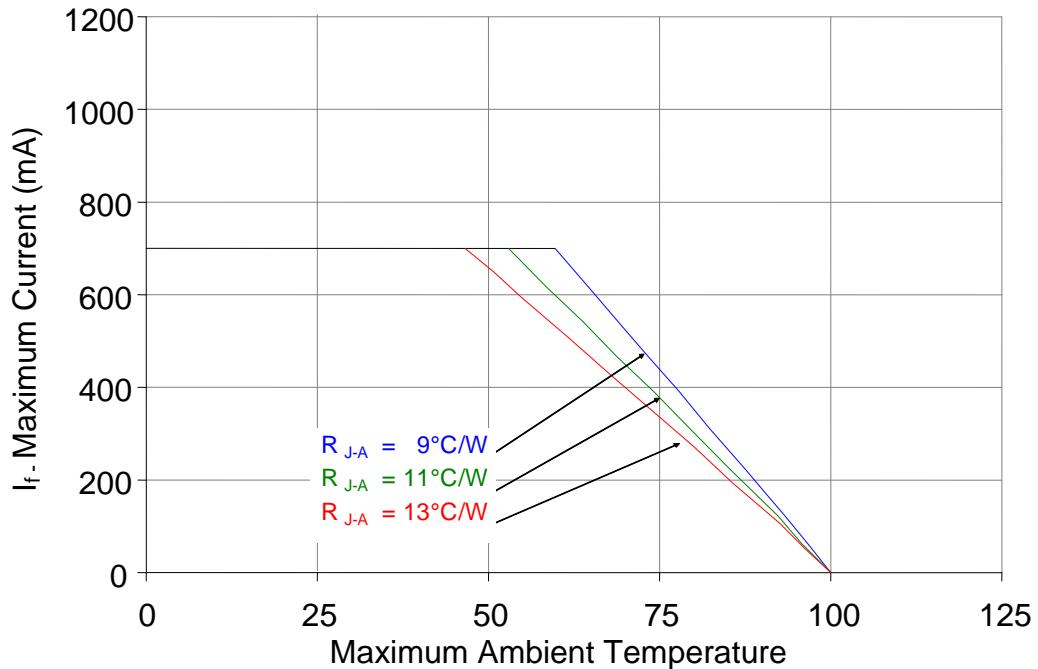

Figure 10: Maximum forward current vs. ambient temperature based on  $T_{J(MAX)} = 125^\circ\text{C}$ .
1. Maximum DC forward current is determined by the overall thermal resistance and ambient temperature. Follow the curves in Figure 10 for current derating.
### Notes for Figure 10: